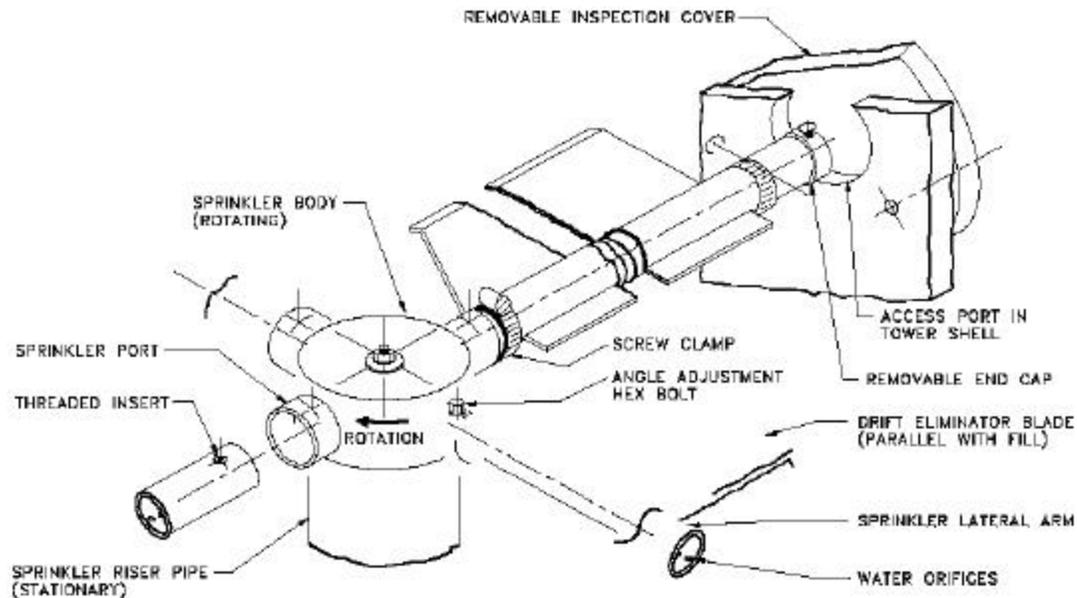

FIGURE 2 - WATER DISTRIBUTION SPRINKLER SYSTEM
*All four (4) sprinkler lateral arms, (see fig 2.) are normally shipped detached and are packaged and secured inside the tower. Remove these lateral arms before up-righting and lifting cooling tower.
*Two (2) aluminum lifting lugs secured to the top of the cylindrical section of the cooling tower are provided for up-righting and lifting purposes. Install adequate hooks and cable to each of these lifting lugs, lift the cooling tower upright and set it on a smooth, flat, and rigid surface. Use guidelines as necessary, to prevent damage to the cooling tower, and as a safety measure to control and avoid sudden shifts or movements of the load.
With the lateral arms installed, the drift eliminator blades should be parallel with the top of the fill. (See Figure 2)